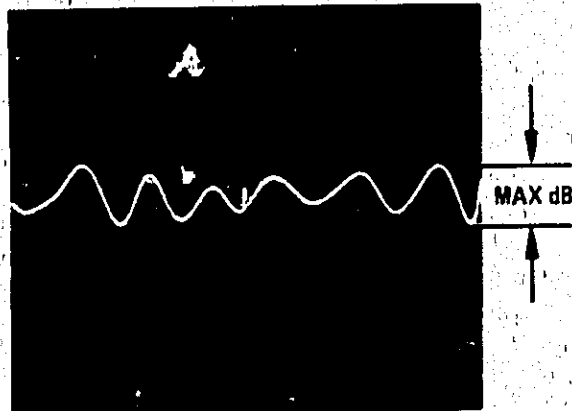

Figure 13. TEST Port Open/Short Ratio Magnitude > 2 MHz
- (2) Measure the maximum peak-to-peak variation on the display (Figure 13) and record the results: